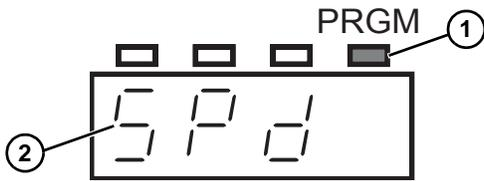

Figure 34
- Press MODE to switch to the data setting mode. The PRGM LED (Figure 34, item 1) will illuminate and “SPd” (Figure 34, item 2) will be displayed.